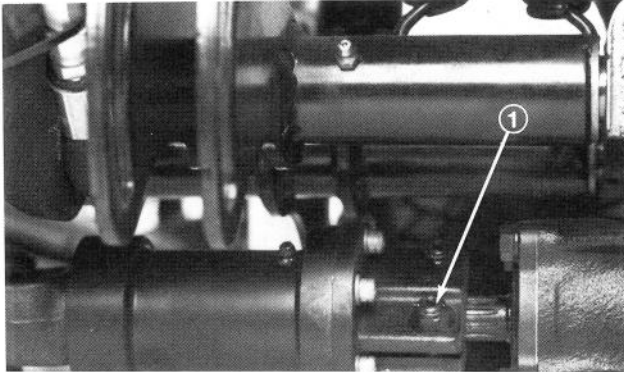

Figure 16
8. Slide clutch end of drive shaft onto rear axle shaft spline, aligning roll pin hole in shaft with hole in clutch coupling. Install roll pin thru coupling and shaft (Fig. 16).